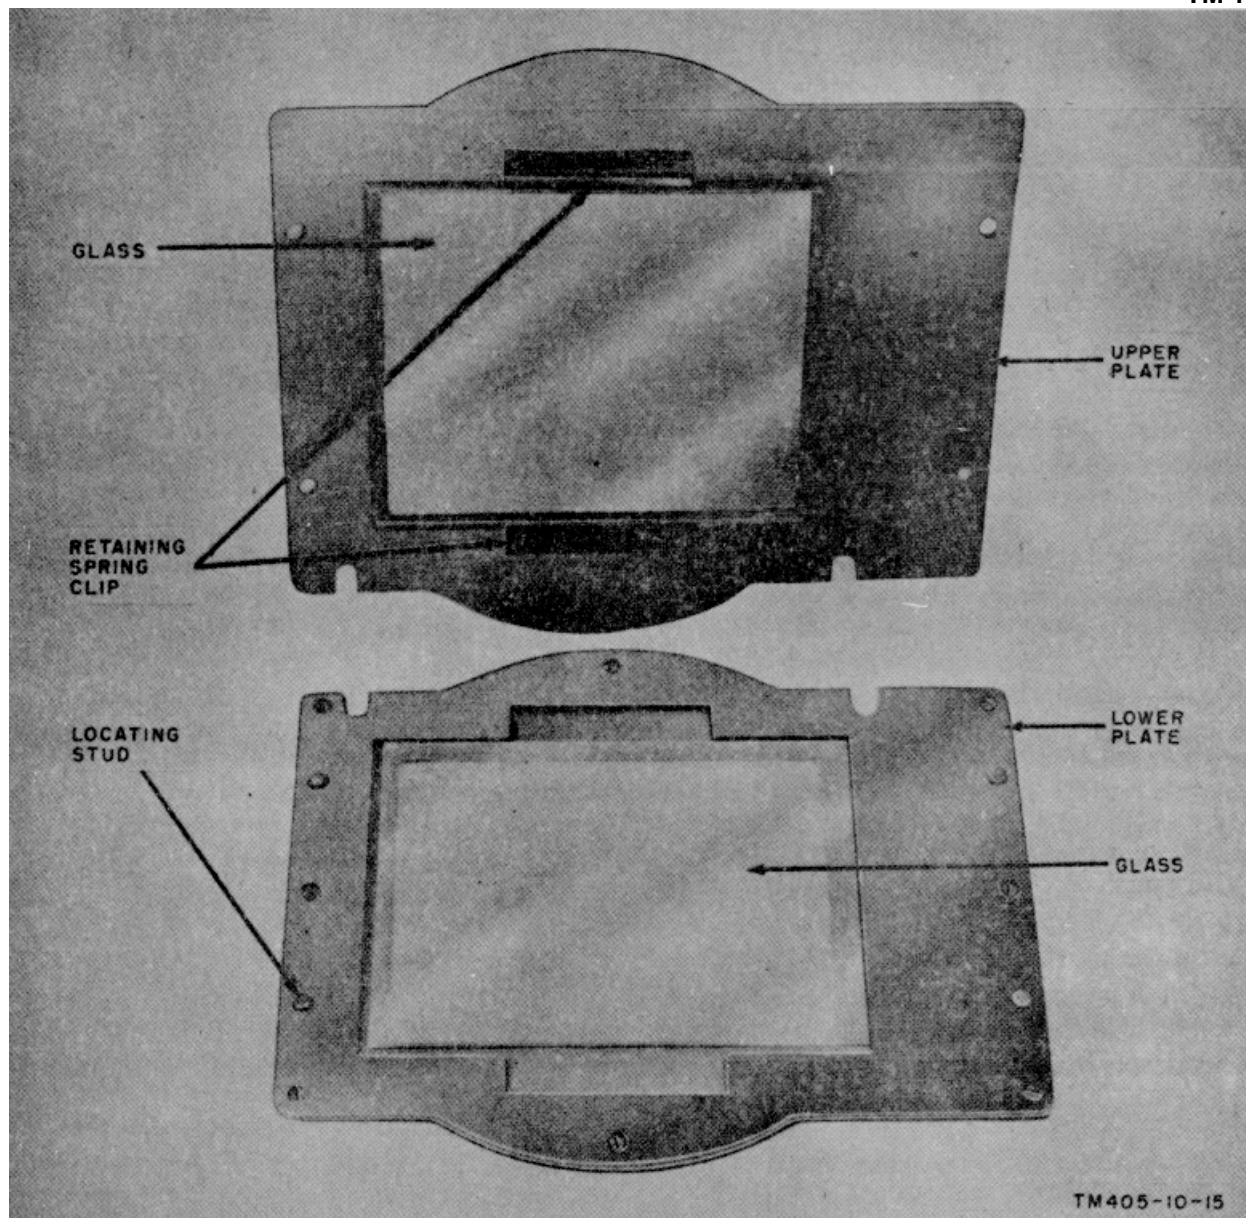

Figure 23. Glass negative carrier, opened, furnished with PH-406
(1) PH-406 (fig. 23).
- (b) For glass negative carrier (fig. 23), place the glass negative carrier on the bellows top plate so that the U shaped slots of the carrier are positioned against the locating studs on the bellows top plate.